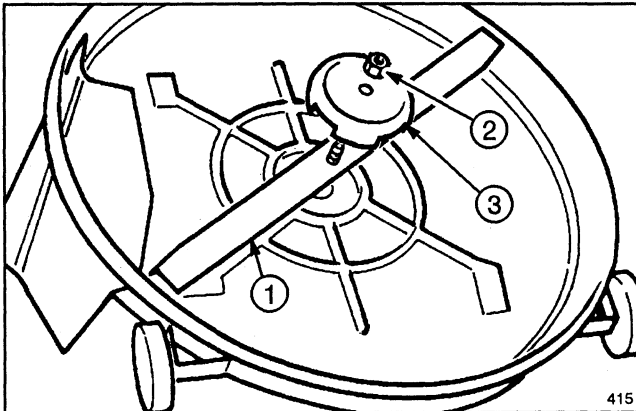
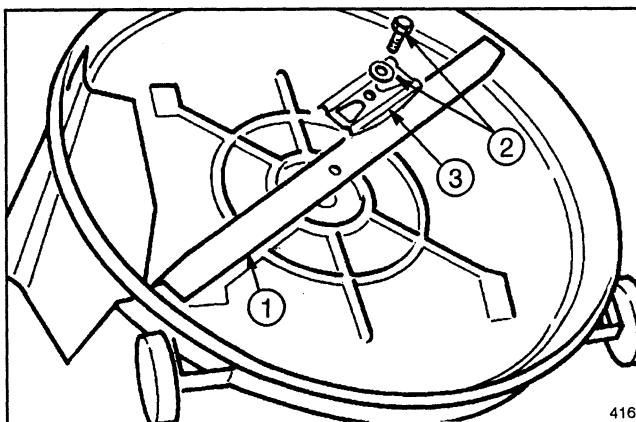

Figure 1
Figure 2
1. Use a rag or thickly padded glove to hold old blade. Depending on your unit's blade assembly, remove lock nut, anti-scalp cup, and blade (Fig. 1) OR blade bolt, washer, blade stiffener, and blade (Fig. 2).